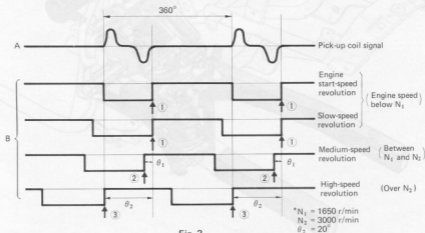

Fig. 2
When the signal rotor is rotated in the system block diagram above, the signal "A" is generated in the pick-up coil. The thus-generated signal will be converted to the signal wave-form "B" at the inside of the ignitor unit and ignition timing is controlled in response to the engine speed as shown in Fig. 2. That is, timing controlled in the ignitor unit becomes ① when the engine speed is lower than  $N_1$ , and it becomes ② when the engine speed is between  $N_1$  and  $N_2$ . The advanced angle when ignited with ② is  $\theta_1$ . When higher than  $N_2$ , timing is ③, and the timing does not advance any more. The maximum advanced angle is  $\theta_2$ .